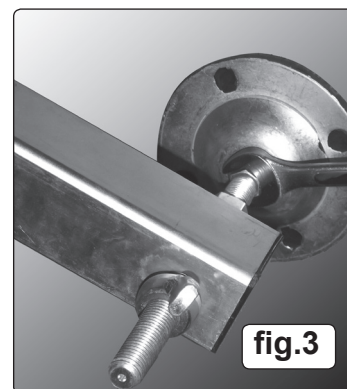

fig.3
- 4.7. Elevate the support pad carefully under the gearbox/engine using a spanner on the hex formed at the top of the thread (fig.3).